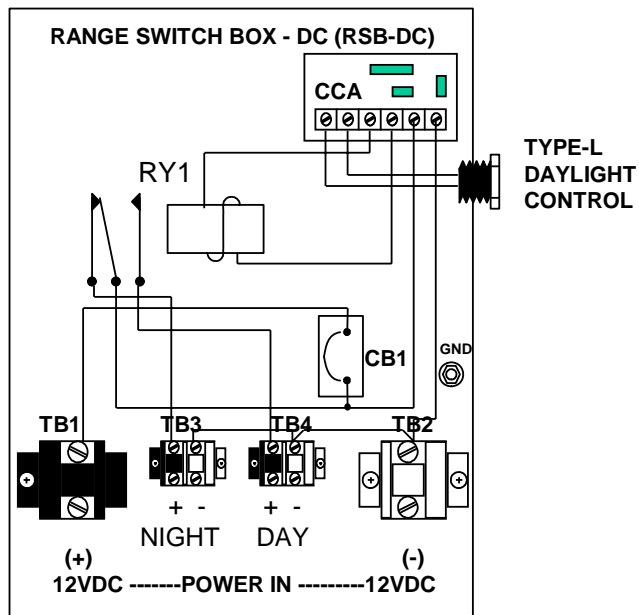

Figure 2-10
- a. The RSB-DC (Figure 2-10) is used on DC powered ranges to switch between daytime and nighttime lights. The device is comprised of a circuit breaker, type-L daylight control, relay driver circuit card and a single pole, double throw (SPDT) relay.